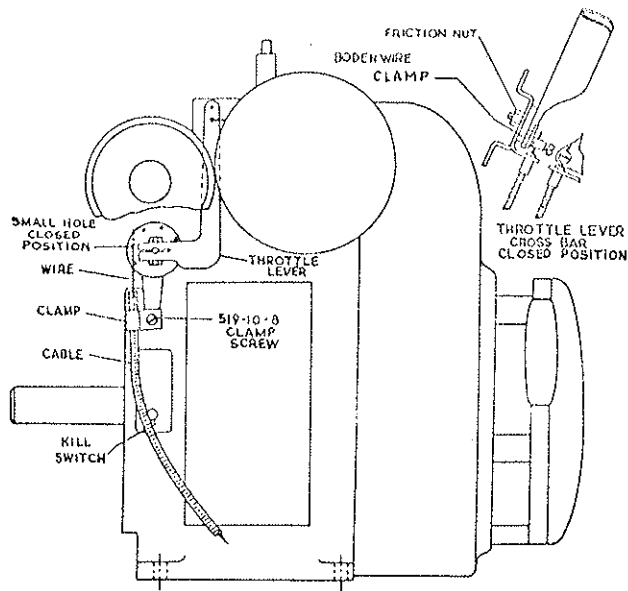

Fig. 3
4. The engine throttle has been installed on engine as shown in Figure 3 (steps "a" thru "c" have been completed.)
e. Check travel of throttle lever and adjust as follows. With the throttle lever on engine in the closed position, the lever on handle should be as shown in the sketch, Figure 3. Next, tighten boden wire clamp to prevent slipping on throttle wire. Throttle assembly is now ready to test.
9. For all Kohler engines the "kill switch" is located on the lower left side of the engine below the exhaust. See Fig. 3.